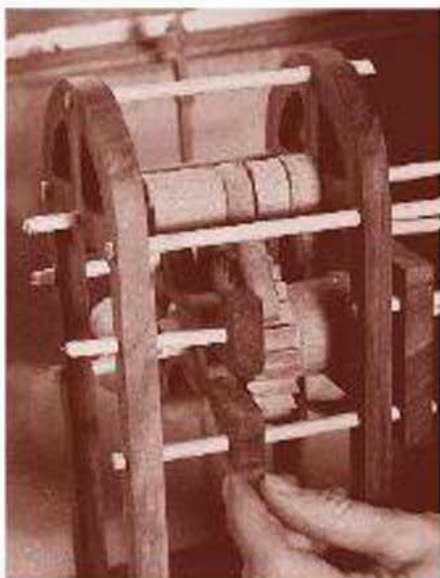

FIGURE 13-18
- 7** Now make sure the recoil, or movement, is running smoothly (Fig 13-18).